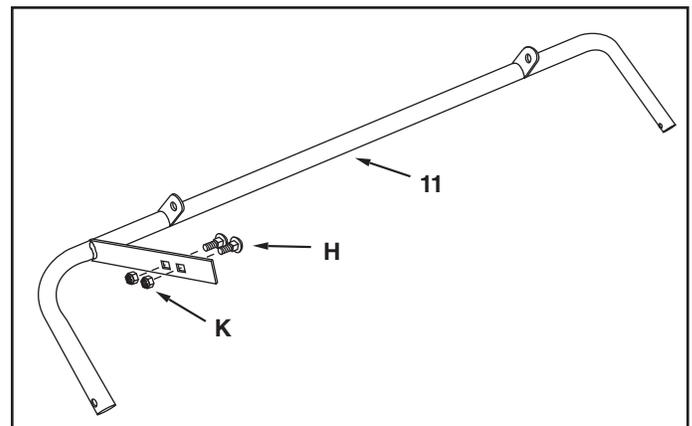

FIGURE 17
24. Temporarily install two 5/16" x 1" carriage bolts (H) and 5/16" nylock nuts (K) in the direction shown in the lift tube assembly (11). **Do not tighten.** See figure 17.